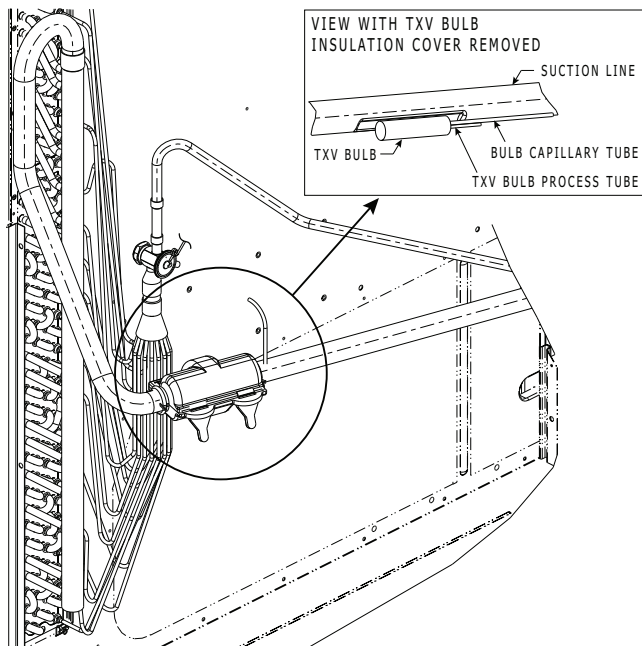

Fig. 22 — TXV Valve and Sensing Bulb Location
8. Attach TXV bulb in the same location where the original (in the sensing bulb indent) was when it was removed, using the supplied bulb clamps. See Fig. 22 on page 15.